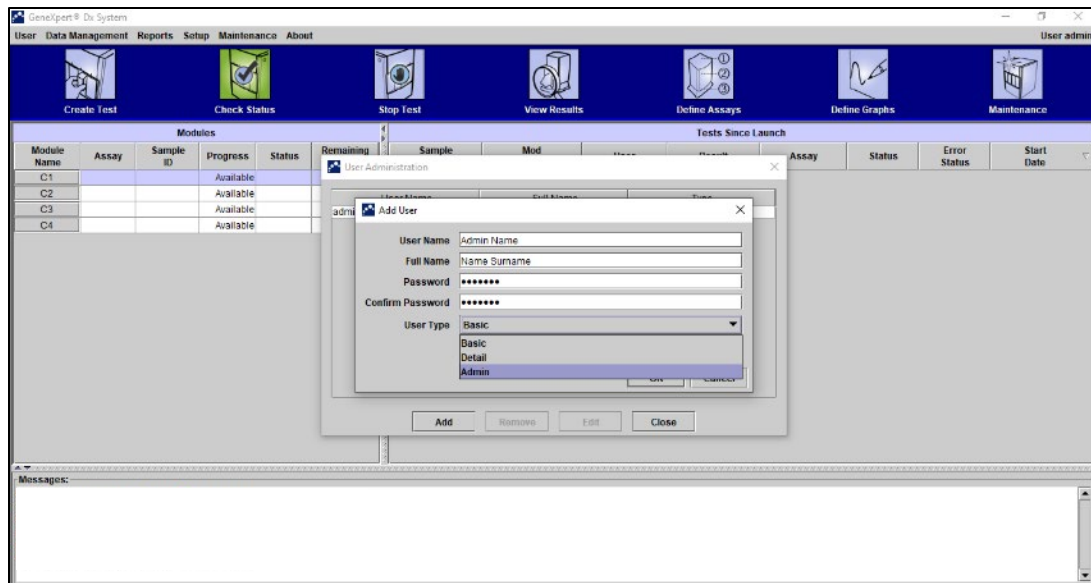

Figure 10. Add User prompt User Type options
- E. Fill in all the required fields. For User Type, select either *Detail* or *Admin* depending on the user setup required (Figure 10.).